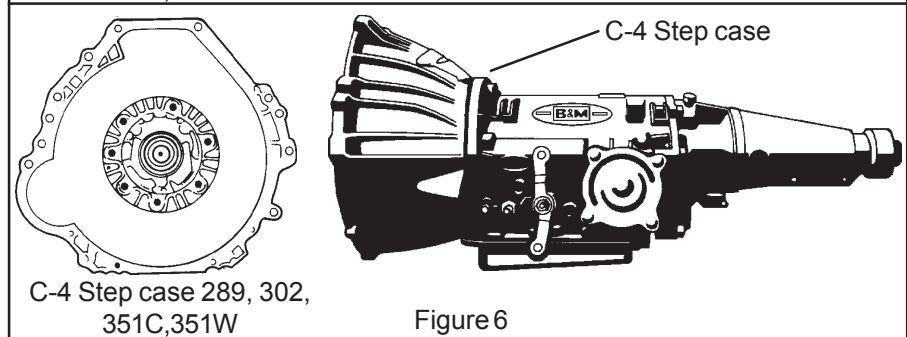
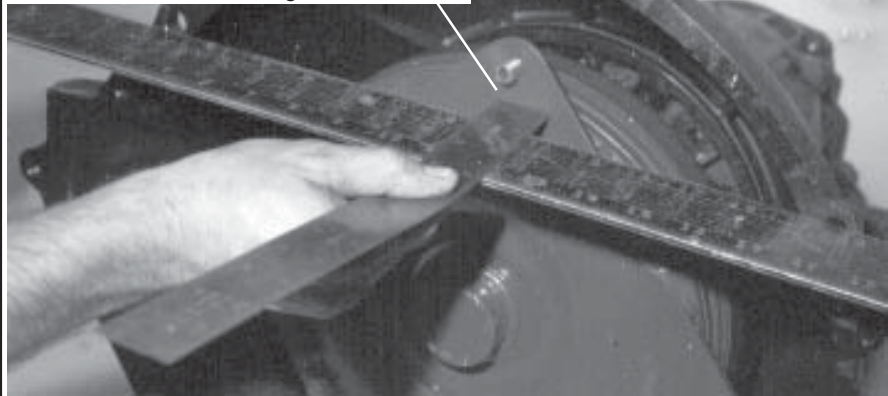

Figure 6
Figure 7
STEP 7. Remove dipstick and tube assembly. Remove torque converter, cover pan bolts and remove converter cover pan (see Fig. 6). Remove flexplate to converter bolts (see Fig. 7). Use starter motor to "bump" each bolt into position.
2. Pump Mount: The bellhousing bolts to the transmission with the same bolts that hold the oil pump. (See Fig. 6) There is a 1/4" gap between the case and the bellhousing.
converter to engage input shaft, stator shaft and oil pump rotors. Place a straightedge across the face of the transmission bellhousing. Measure the distance from the face of the bellhousing to the base of the torque converter drive stud. (See Fig. 7) The base of the stud must be at least **13/16" (4 cyl-351 V-8) or 1-1/8" (360 Larger-V-8) inside the bellhousing**. A measurement of less than 13/16" (4 cyl-351 V-8) or 1-1/8" (360-Larger V-8) indicates the torque converter is not fully engaged in the transmission, except torque converters specially built for motor plate applications. (Subtract the thickness of your motor plate from the 13/16" or 1-1/8" dimension for proper measurement.) Continue to rotate and turn the converter to obtain full engagement. **If you install the transmission without full converter engagement, you will damage the oil pump and/or converter.**